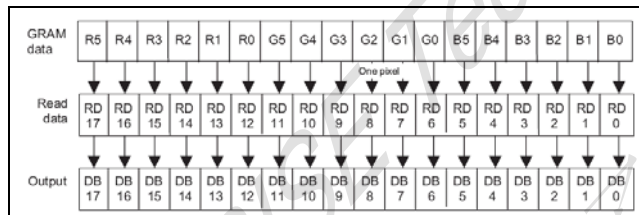
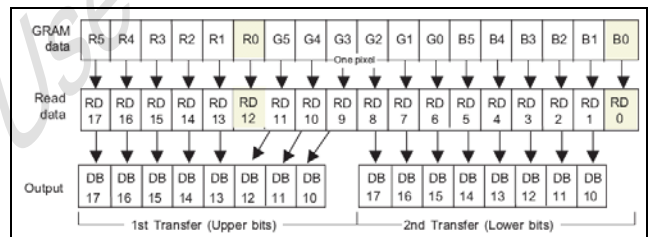

Figure 6-20 18-bit interface
Figure 6-23 8-bit interface / SPI
**Note:** This register is not available with the RGB interface. **Figure 6-20 ~ Figure 6-23** illustrates the pin assignment among data bus (DB17-0), R22 (RD17-0) and GRAM in read data instruction.